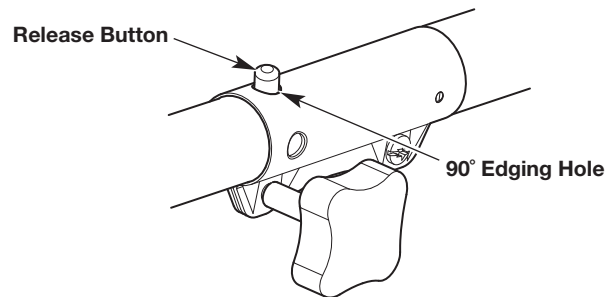

Fig. 17
3. Rotate the attachment until the release button snaps firmly into the 90° edging hole (Fig. 17).